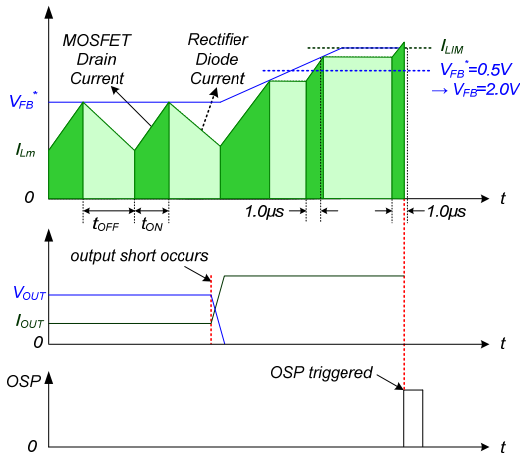

Figure 22. Output-Short Protection
4.3. Output-Short Protection (OSP): If the output is shorted, steep current with extremely high di/dt can flow through the SenseFET during the minimum turn-on time. Such a steep current brings high-voltage stress on the drain of the SenseFET when turned off. To protect the device from this abnormal condition, OSP is included. It is comprised of detecting V_{FB} and SenseFET turn-on time. When the V_{FB} is higher than 2.0V and the SenseFET turn-on time is lower than $1.0\mu s$, this condition is recognized as an abnormal error and PWM switching shuts down until V_{CC} reaches V_{START} again. An abnormal condition output short is shown in Figure 22.